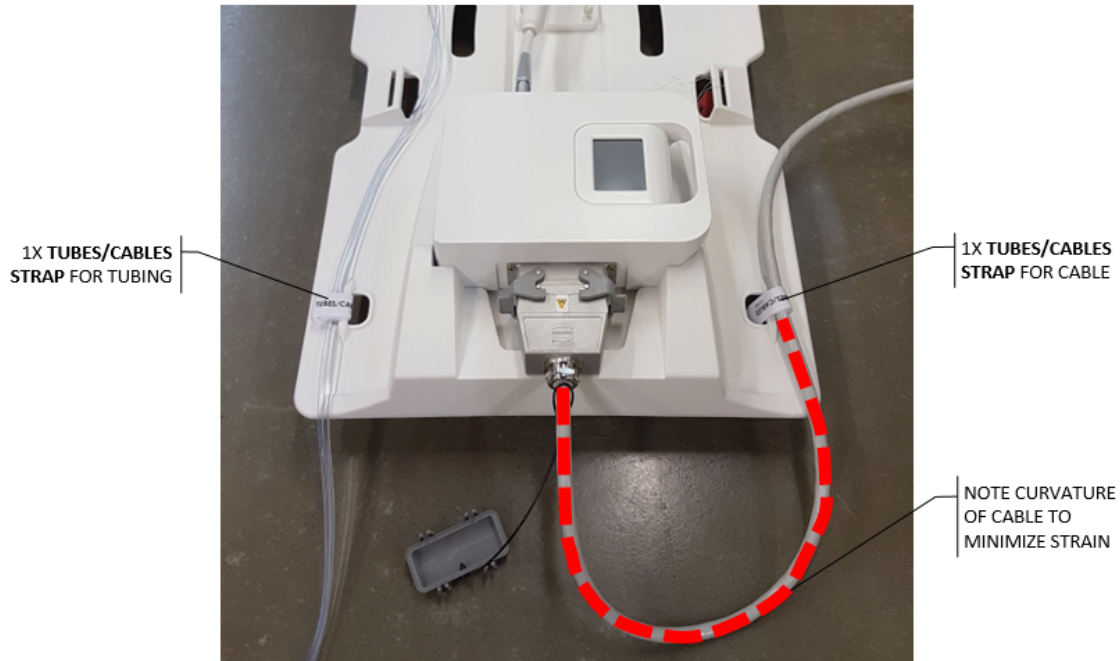

Figure 27: Tube-and-cable straps of base plate: one for tube sets and one for RF cable
4. **MRI Technologist:** Use tube-and-cable straps to manage fluid tubes and the white RF cable as shown in *Figure 27*. Leave some slack to allow the cables to slide freely and to reduce tripping hazards. Ensure no cables, tubing, or other materials can be caught while the MRI table is moving.